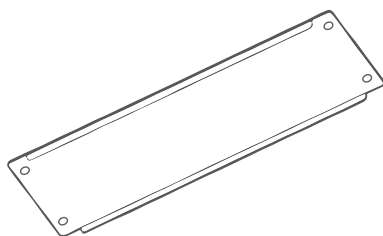

Figure 5-19 Dummy Cover
- F. For slots that are not in use, install a dummy cover (see Figure 5-19 Dummy Cover).